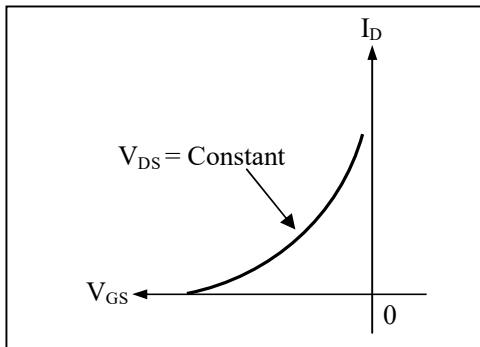

Fig.3.15(c)
- These transfer characteristics curves are obtained by using the circuit shown in fig.3.15(c). First adjust the drain to source voltage to some suitable value. Then increase the gate to source voltage in small suitable value at each step and record the corresponding values of drain current at each step.
- Plot a graph with gate to source voltage ( $V_{GS}$ ) along the horizontal axis and the current ( $I_D$ ) along the vertical axis, we shall obtain a curve as shown in the fig.3.15(c).